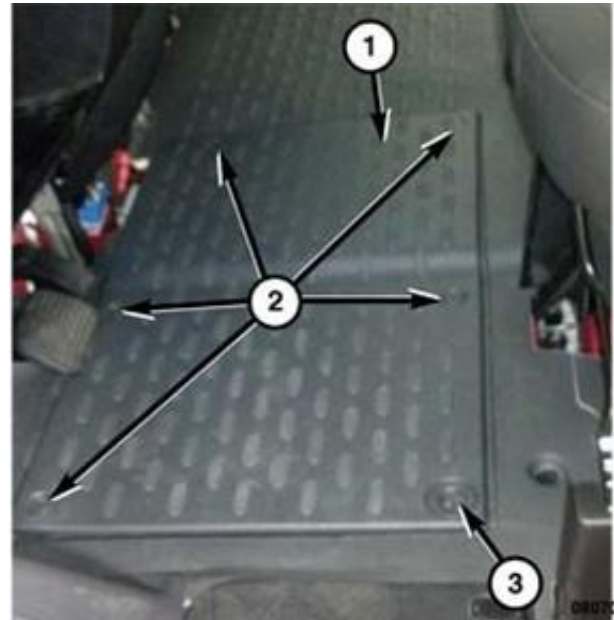

**Figure 3 – Battery Cover**
2. Turn the ignition switch to the Off position. Be certain that all electrical accessories are turned off (Figure 3).
3. Remove the battery cover (1) by loosening fasteners (2, 3) (Figure 3).